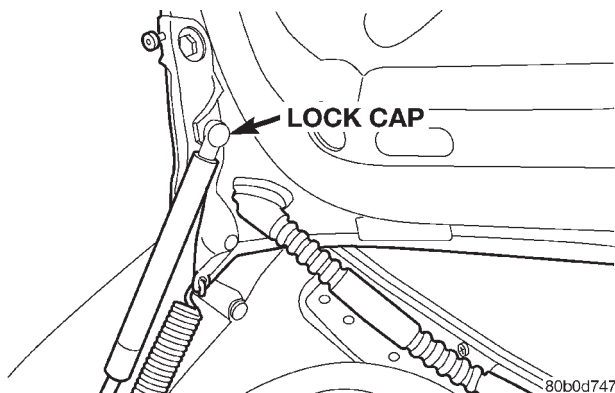

Fig. 59 Gas Prop-Rod Lock Cap
- (1) Open decklid.
- (2) Remove the gas prop-rod lock caps (Fig. 59).
- (3) Remove prop-rod from mounting studs.